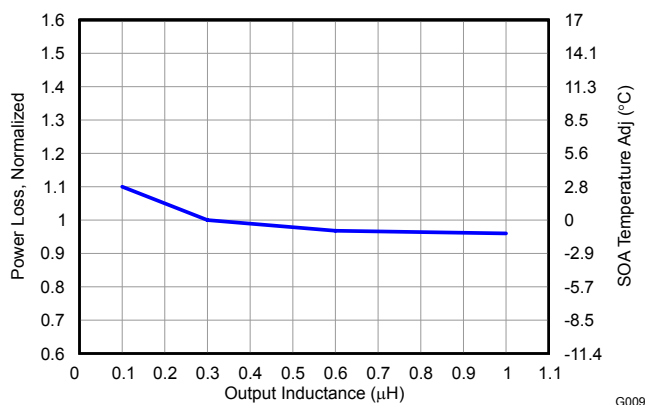

Figure 15. Normalized Power Loss vs Output Inductance
- Normalized Power Loss for output inductor ≈ 1.06 (Figure 15)
- SOA adjustment for output inductor $\approx 1.6^{\circ}C$ (Figure 15)